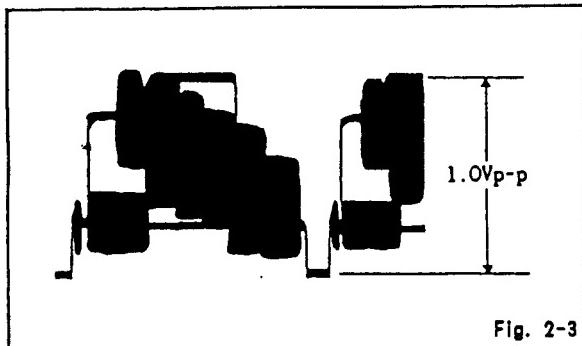

Fig. 2-3
3. Adjust VR4001 so that the signal becomes  $1.0 \pm 0.05\text{Vp-p}$  as shown in Fig. 2-3.
3. Adjust VR8001 so that the signal becomes  $1.0 \pm 0.05\text{Vp-p}$  as shown in Fig. 2-3.